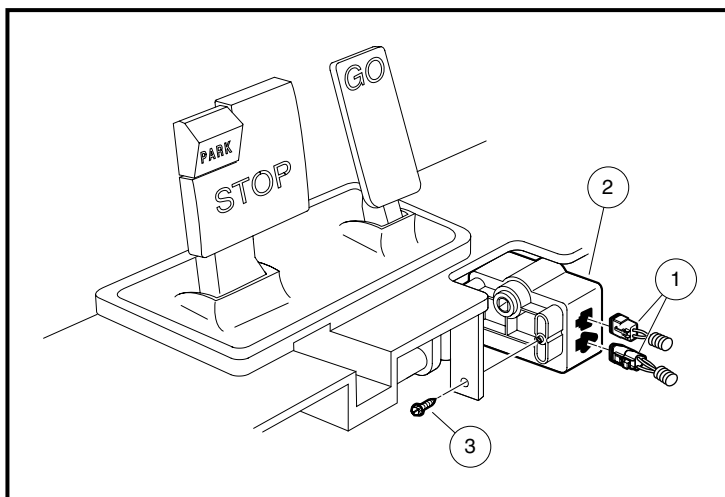

Figure 12-7 Motor Controller Output Regulator (MCOR) Mounting
3. Disconnect the two-pin and three-pin connectors (1) from the MCOR (2) (**Figure 12-7, Page 12-7**).
4. Remove the hex-head screws (3) connecting the MCOR to the pedal group.
1. Secure the MCOR (2) to the pedal group with two hex-head screws (3) (**Figure 12-7, Page 12-7**). Tighten screws to 23 in-lb (2.6 N·m).
2. Connect the two-pin and three-pin connectors (1) from the wire harness to the MCOR.